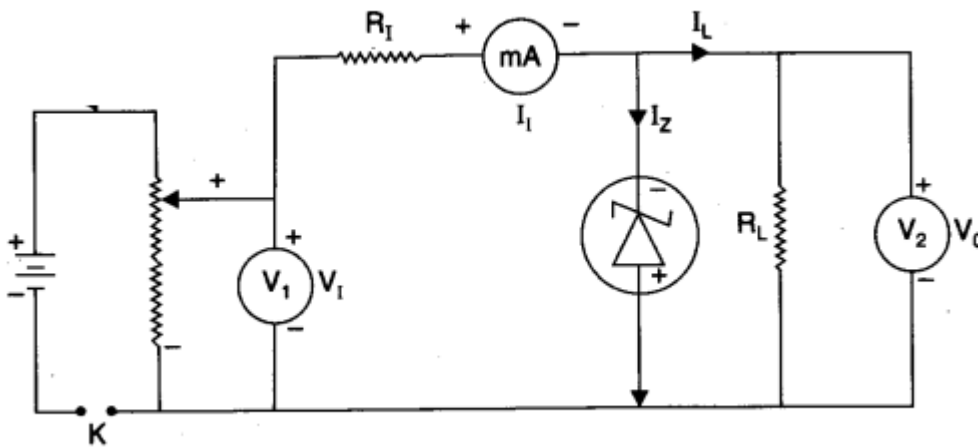

Figure 3 Reverse bias
1. Make connection as shown in circuit diagram (figure 3).